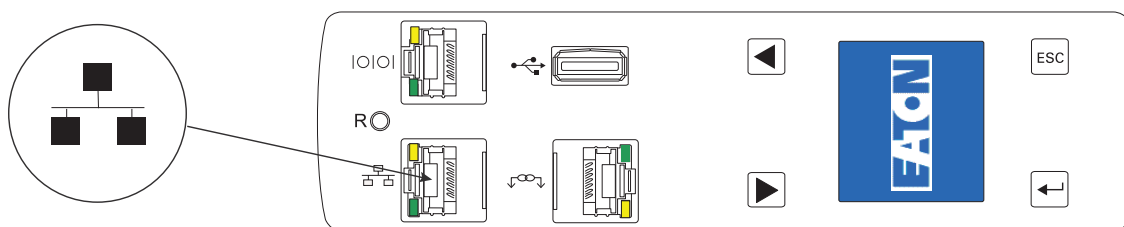

Figure 33. Connecting the ePDU to a LAN (0U Models)
2. Connect one end of the cable to the Ethernet connector on the ePDU (see Figure 33). Connect the other end of the cable to the Ethernet connector on the router (or other LAN device).